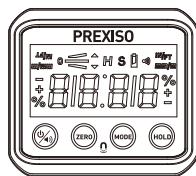

FIG. 1
a. Turn off the equipment. Put the equipment on a flat and smooth solid surface. (FIG. 1).